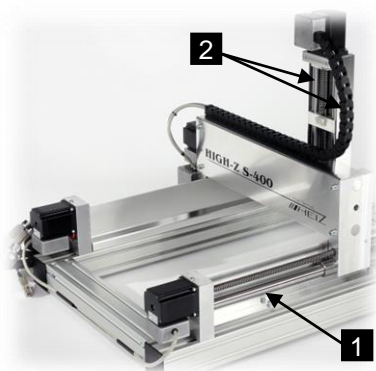

Figure 28: linear guides of the X and Z-axis
- 2 Grease the linear guides of the X-axis (Fig. 28/1), the Z-axis (Fig. 28/2) well using a low-friction grease wetted cloth DIN 61650 or alternatively apply the fat with a suitable brush.